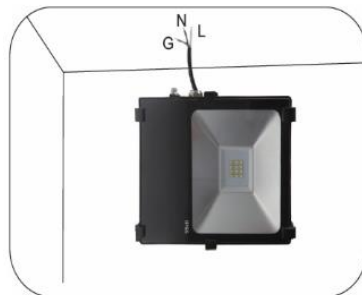

Figure 5.
3. Make electrical connections to the fixture (Black/L-White/N-Green/Gnd) Make sure all connections are correct and properly secured. **See figure 5.**